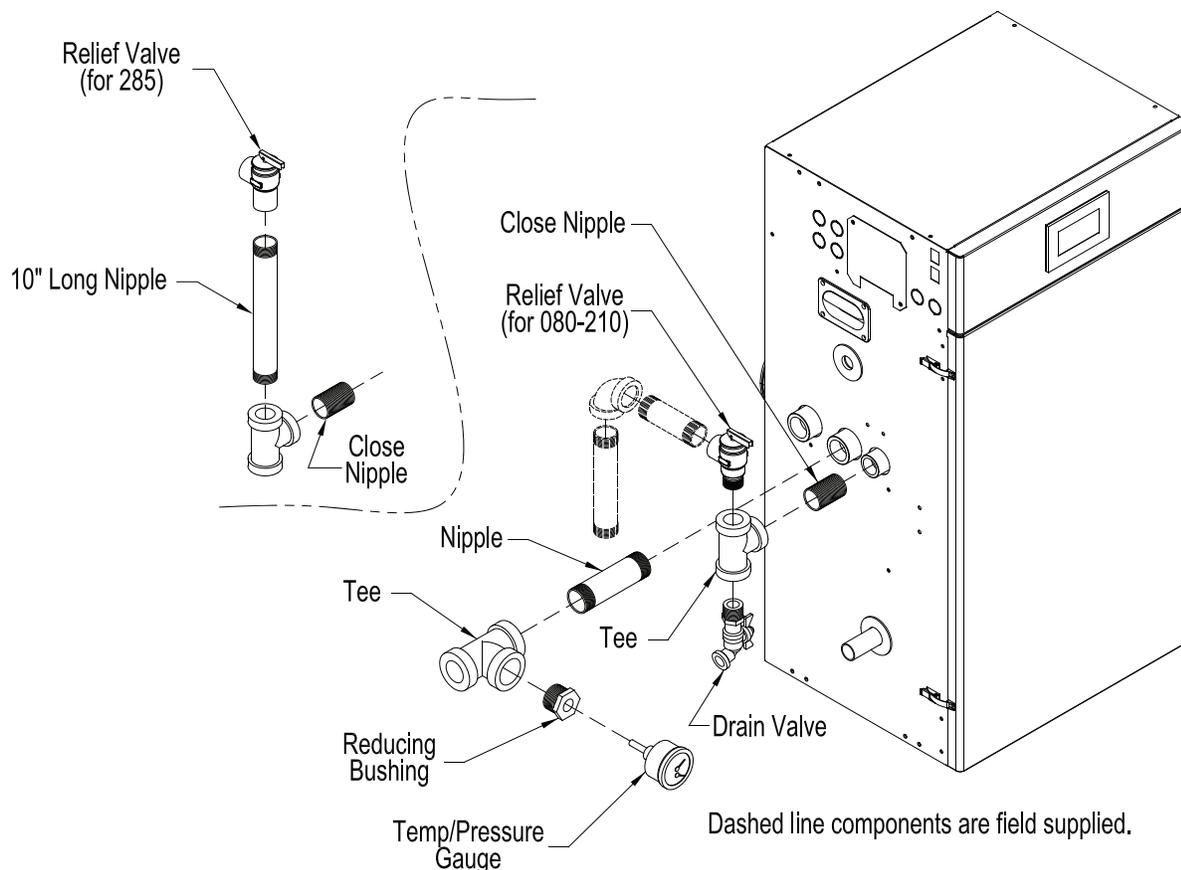

Figure 20: Factory Supplied Piping and Trim Installation
Alpine boilers have factory supplied Miscellaneous Part Carton (P/N 102942-01 – ALP080B through ALP210B; 102942-02 or 103676-01 – ALP285B), which includes supply piping components, gas piping components, Temperature & Pressure Gauge, Pressure Relief Valve and Drain Valve. See Figure 20 "Factory Supplied Piping and Trim Installation".
- 1. Safety Relief Valve (Required)** - The relief valve is packaged loose with boiler and must be installed in the location shown in Figure 20 "Factory Supplied Piping and Trim Installation". The relief valve must be installed with spindle in vertical position. Installation of the relief valve must comply with ASME Boiler and Pressure Vessel Code, Section IV. The standard factory shipped relief valve is rated for 30 PSI maximum working pressure for ALP080B through ALP285B. Optional 50 PSI, 80 PSI and 100 PSI maximum working pressure rated relief valves are available. If the valve is to be replaced, the replacement valve must have a relief capacity equal or exceeding the boiler DOE Heating Capacity (models ALP080B through ALP285B). Pipe the relief valve discharge to a location where hot water or steam will not create hazard or property damage if the valve opens. The end of the discharge pipe must terminate in an unthreaded pipe. If the relief valve is not piped to a drain, it must terminate at least 6" above the floor. Do not run relief valve discharge piping through an area prone to freezing. The termination of discharge piping must be in an area where it will not become plugged by debris.
10. Drain Valve (Required) – Drain valve is packaged loose with boiler and must be installed in the location shown in Figure 20 “Factory Supplied Piping and Trim Installation” of the Installation, Operating and Service Instructions.